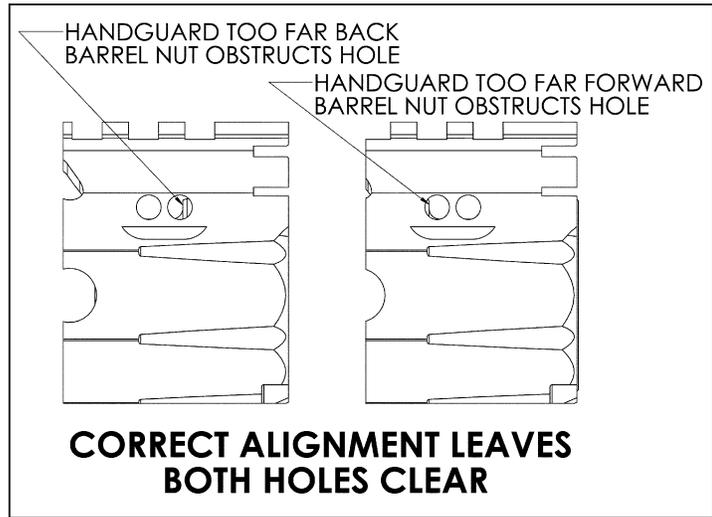

Figure 2
- The handguard is fully seated when both screw holes align with the groove of the barrel nut. The barrel nut should not occlude either cross bolt hole. (See **Figure 2** to for depiction of a fully seated handguard.)